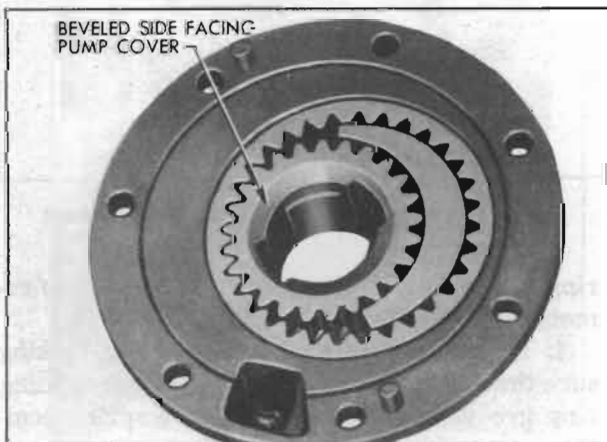

Figure 4-107—Correct Installation of Driving Gear in Pump Body
2. Lubricate and install gears in front pump body. The driving gear must be installed with the beveled side outward so that this side will be against the cover when pump is installed. See figure 4-107. *Reversing this gear in pump body will result in severe damage to the transmission.*